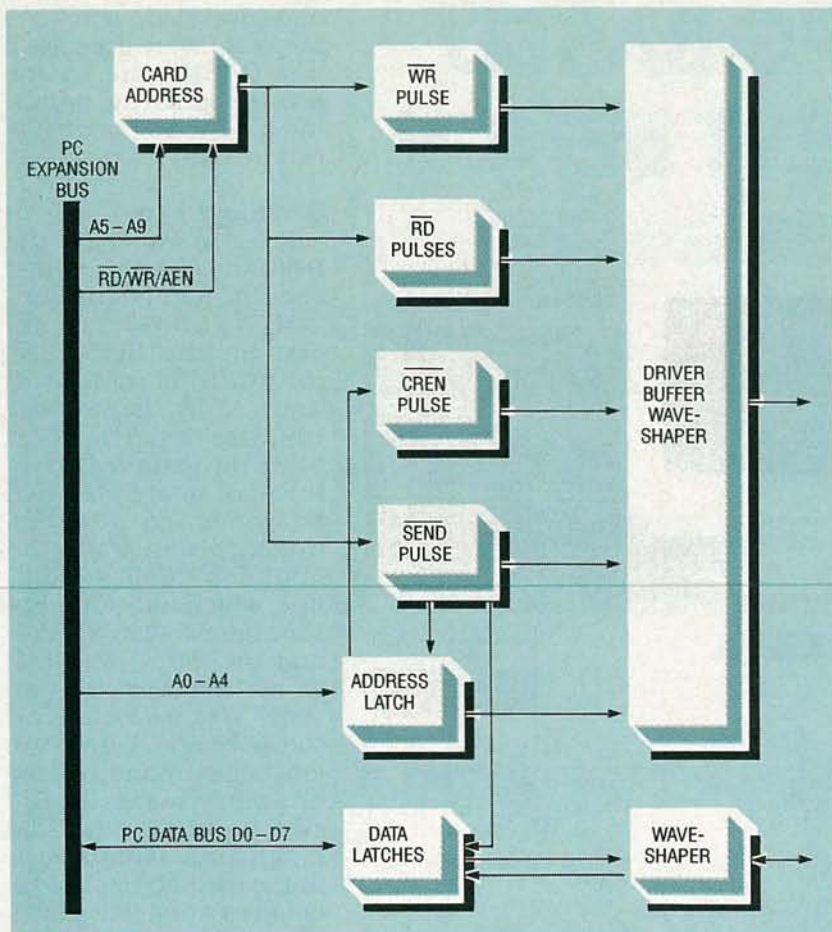

FIG. 1—I1000 BLOCK DIAGRAM. This interface will let your PC communicate with the test equipment we'll be working on in future articles.
Refer to Fig. 1 for the following example. When the BASIC instruction, "OUT 768,85" is executed, the byte "85" (01010101) is sent to address "768" (where the I1000 resides). The PC expansion bus address lines A5-A9 are attached to the card-address block, along with the ADDRESS ENABLE (AEN) line, which indicates that the address data is valid, and the WRITE (WR) line, which indicates that an "out" was performed. If the $\overline{\text{AEN}}$ and $\overline{\text{WR}}$ lines are low (logic 0) and the address lines match the DIP switch settings, an 8-bit magnitude comparator in the card-address block changes state (goes low). That tells the I1000 that the CPU has selected it.